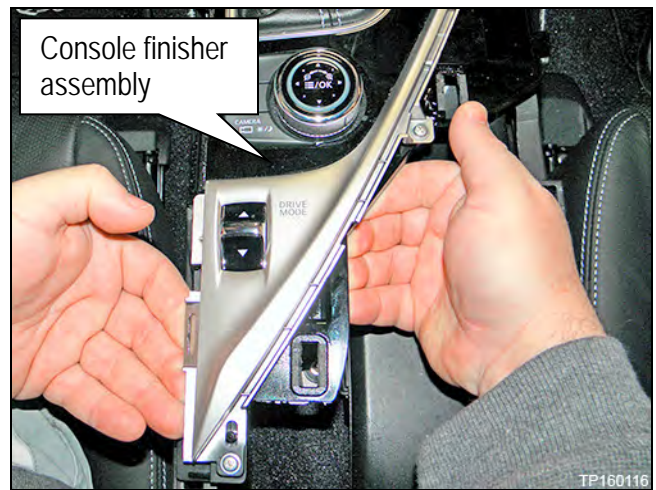

Figure 20D
6. Remove the two screws (Figure 19D) that retain the console finisher assembly (Figure 20D on page 67) that are to the left and the right of the seat heater buttons, under the audio controls.
- a. Lift the rear of the console finisher assembly gently with equal pressure, as shown in Figure 20D, to detach all clips.